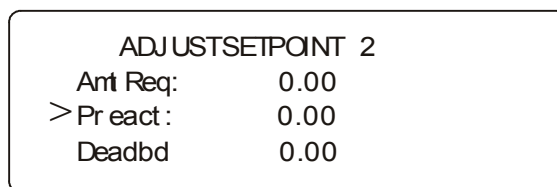

FIG. 3-14 ADJUST SETPOINT MENU/SETTING PRACT
Step 7. Press the down arrow button until the cursor is in front of Preact. (See Fig. 3-14)